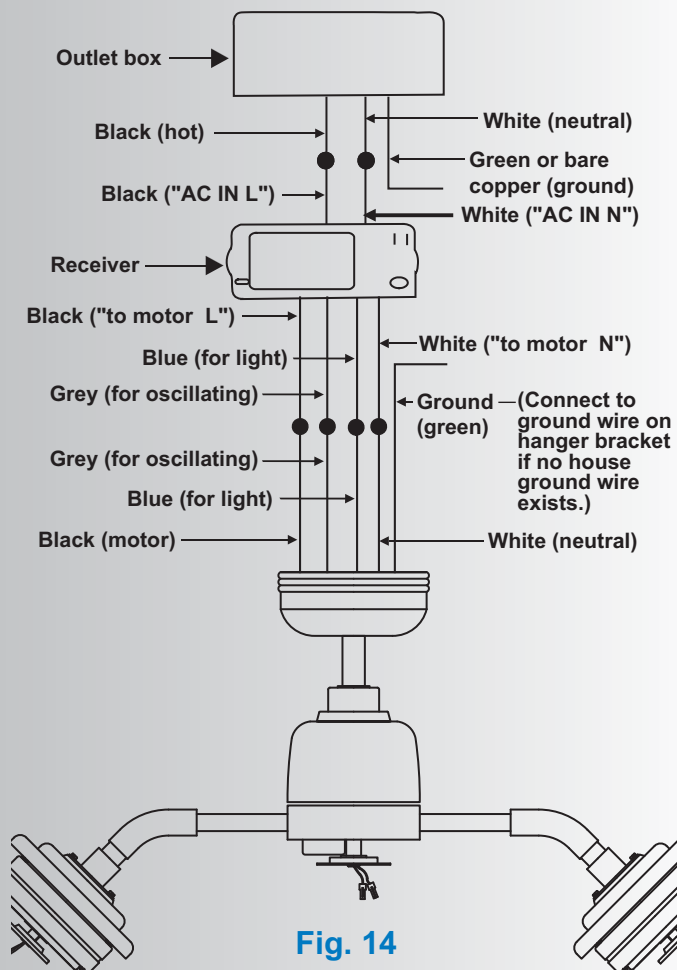

Fig. 14
Step 2. Motor to Receiver Electrical Connections: (Fig. 14) Connect the black wire from the fan to the black wire marked "TO MOTOR L" on the receiver.
Step 3. Receiver to Supply Wires Electrical Connections: (Fig. 14) Connect the black (load) wire from the ceiling outlet box to the black wire marked "AC in L" on the receiver. Connect the white (neutral) wire from the ceiling outlet box to the white wire marked "AC in N" on the receiver.